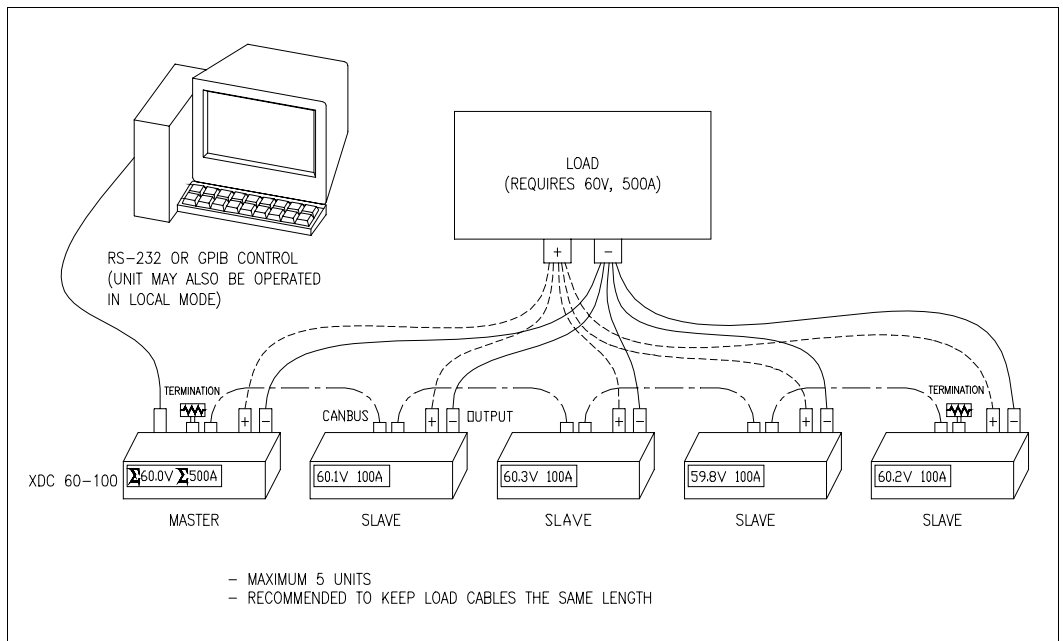

Figure 5.1 Connections for Current Share Operation
3. Make load connections. It is recommended to keep load cables the same length if possible. See Figure 5.1.